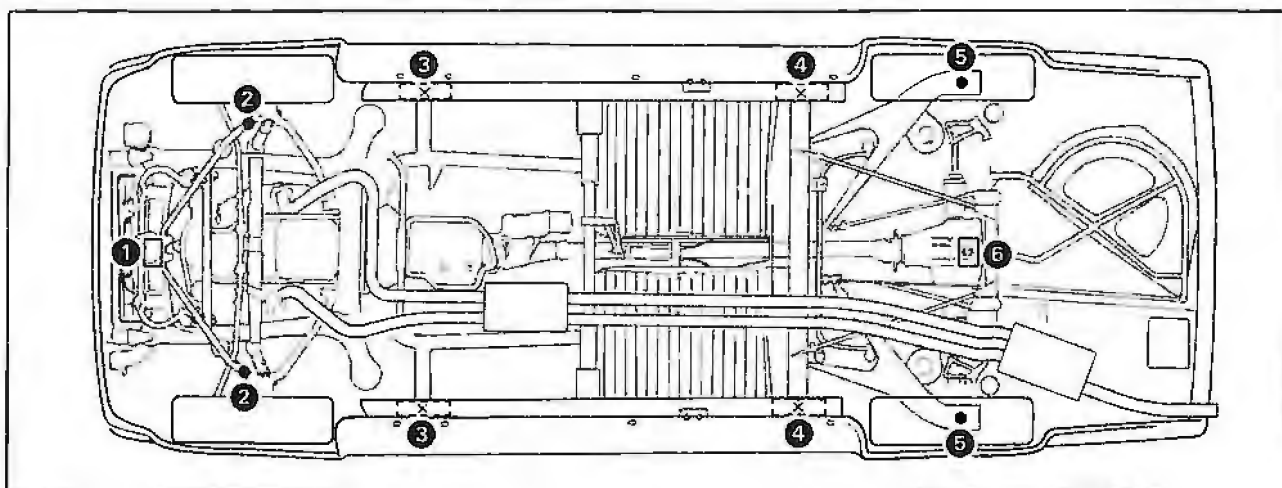
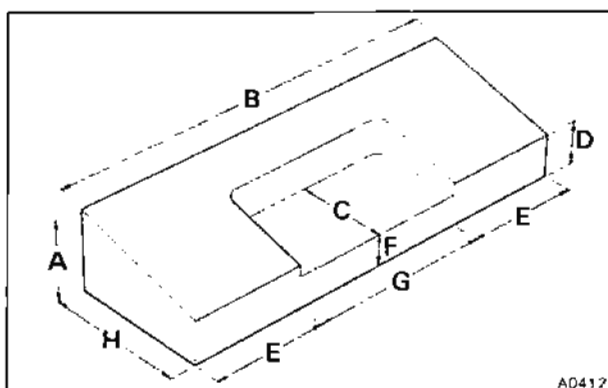

Fig. S3-1 Car jacking positions and support locations
Fig. S3-2 Hardwood sill block
5. To raise the front of the car, position a trolley jack under the front pivot mounting for the lower triangle levers on the sub-frame (see fig. S3-1). Place a piece of soft wood between the jack head and the mounting.
5. To raise the rear of the car, position a trolley jack under the centre of the final drive casing (see fig. S3-1). Place a piece of soft wood between the jack head and the final drive casing. **Do not jack the car under the final drive crossmember.**
When raising the rear of the car to support on axle stands and/or wooden blocks, follow the procedure described previously, then remove the road wheels. Place stands under the positions shown in figure S3-1.
Similarly, raise the front of the car and support with axle stands and/or wooden blocks in the positions shown in figure S3-1. Remove the road wheels if necessary.
If the whole car is to be raised on stands and/or wooden blocks, the car body should also be supported using wooden sill blocks. The blocks should be placed under the jacking points on the car body (see fig. S3-1). The sill blocks should be produced to the dimensions shown in figure S3-2.